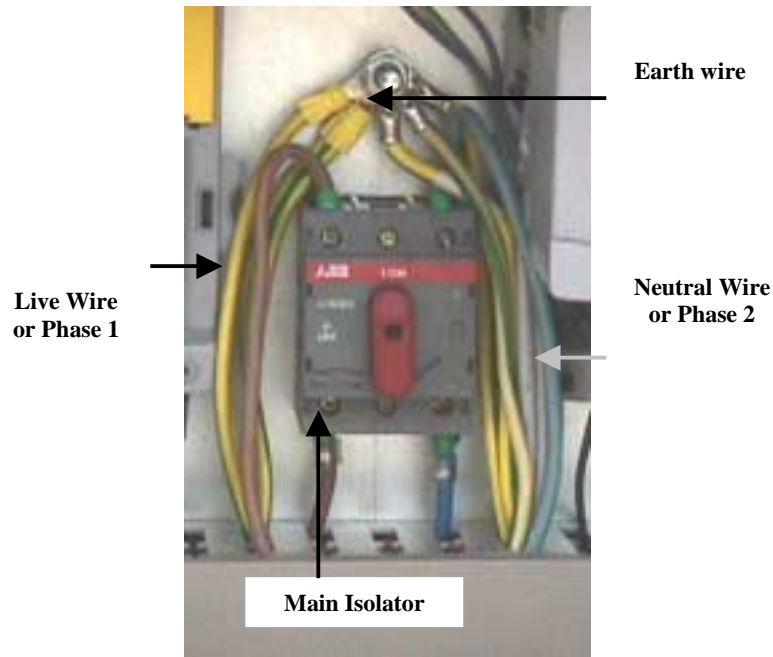

Figure 2.30 Connecting the Mains Cable
3. Secure the terminals of each core (**Live/Phase1** and **Neutral/Phase 2** terminated with **Boot Lace Ferrules** and the **Earth Wire** with an **Eyelet Ferrule**) firmly in place and tidy the cable into the trunking so that it can't be accidentally pulled. See fig 2.30.